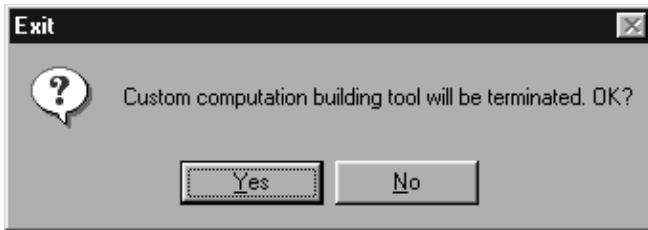

Figure 3.1.7
- (4) The following message box appears. (Fig.3.1.7)